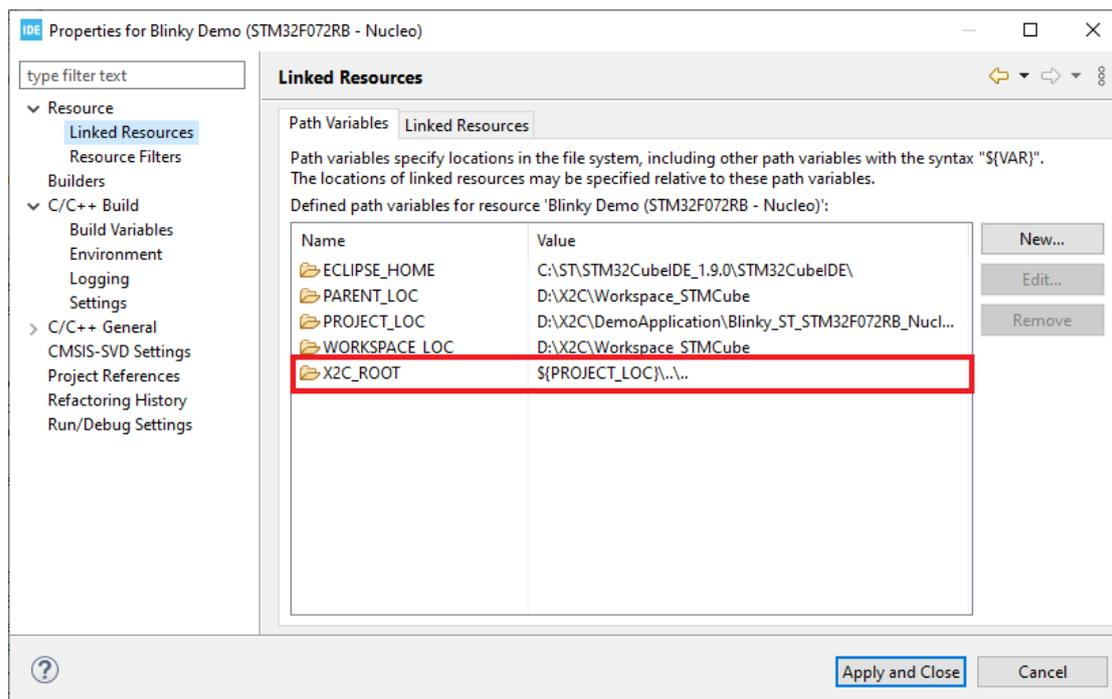
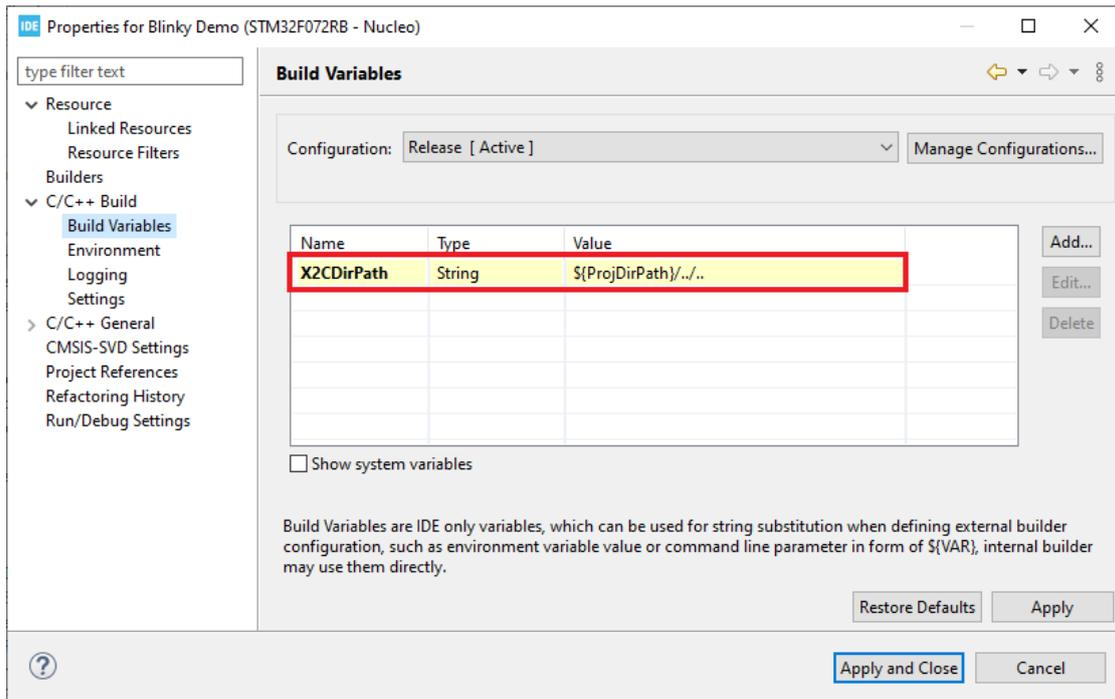

Figure 31: *STM32CubeIDE* resources settings
Figure 32: STM32CubeIDE build variables setting
3. In the *STM32CubeIDE* file structure of the *Blinky* demo project are two virtual folders *X2C-Blocks* and *X2C-Core*, which are linked relatively to the *X2C* directory. If the *Blinky* demo project is copied/moved to a different location, the resource property *X2C\_ROOT* as seen in Figure 31 and the build variable *X2CDirPath* as seen in Figure 32 have to be adapted.